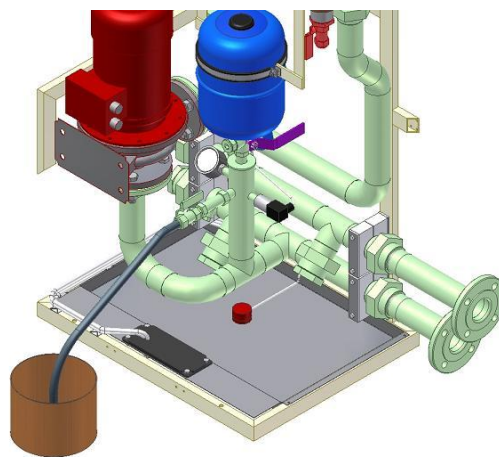

Figure 6.2-5
2. Place an eight (8) litre jar under the valve (if the expansion vessel air nozzle or membrane is broken there might be up to 8 litres in the vessel).
3. Turn the lever (marked violet in Figure 6.2-5) on valve V160 90° so that it points away from you (points to the back wall). This will close off the primary circuit and therefore only the liquid in the expansion vessel will come out. (There is line mark in the end of the stem, where you can also ensure the right position of the 3-way valve. This mark shows the open flow direction.)